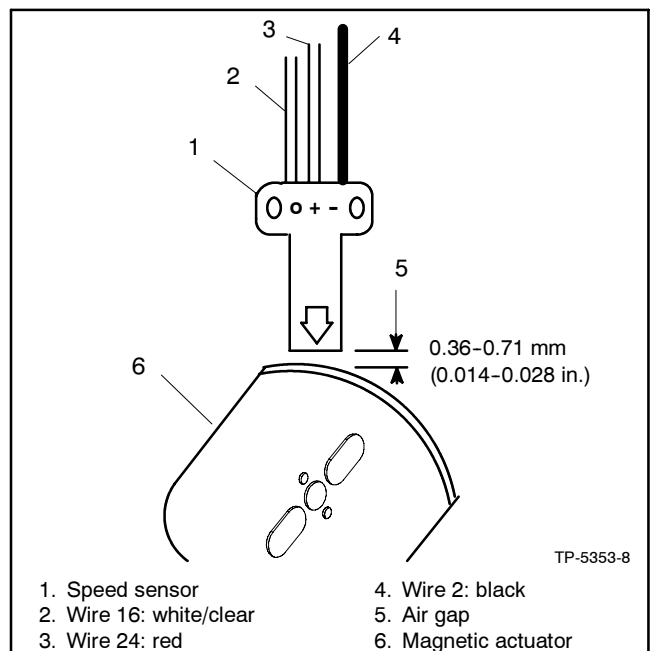

Figure 6-34 Speed Sensor Air Gap
8. Connect the speed sensor leads and adjust the air gap. See Figure 6-34.